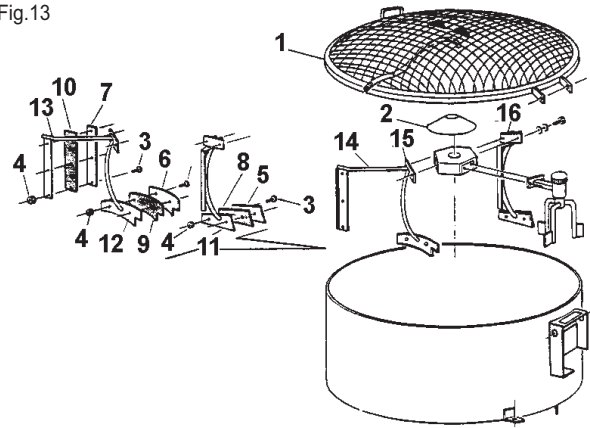

Fig.14
11.4.1 MEZCLADORA EQUIPADA CON MOTOR ELECTRICO (Ref. Fig. 14).